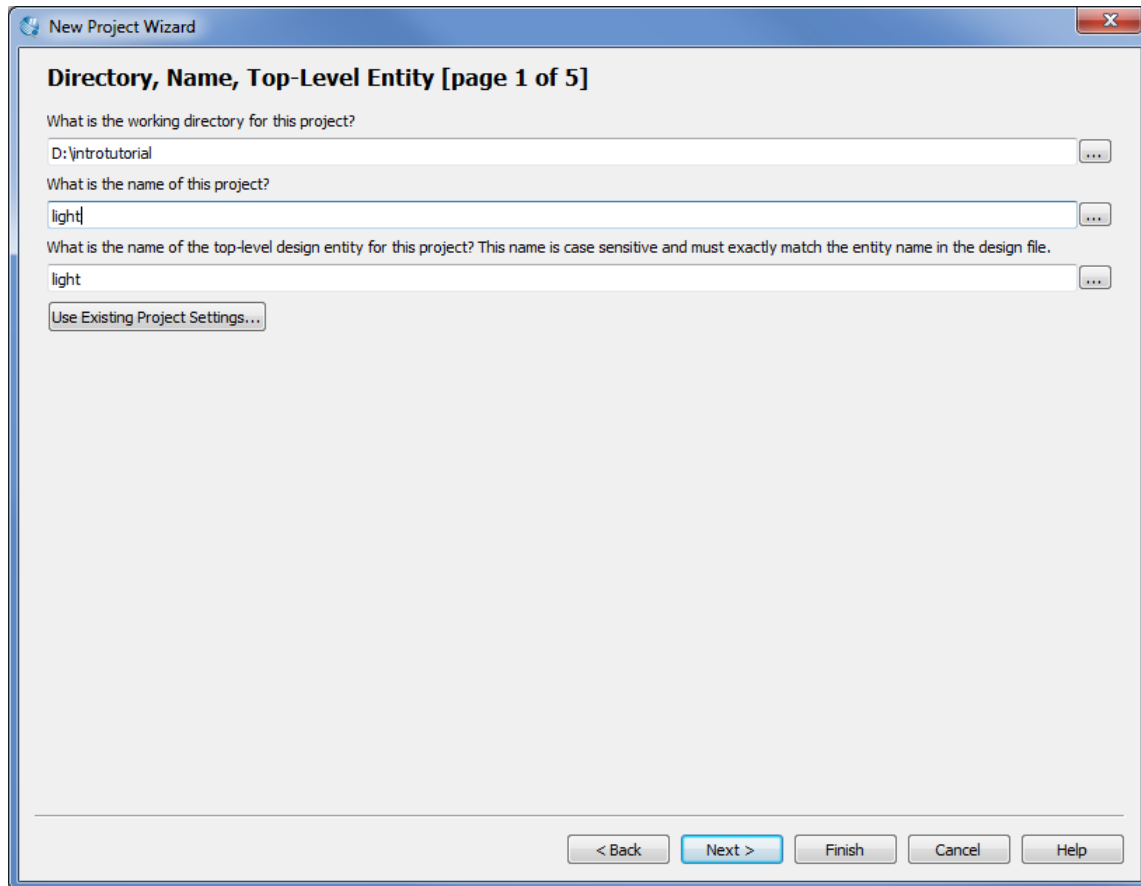
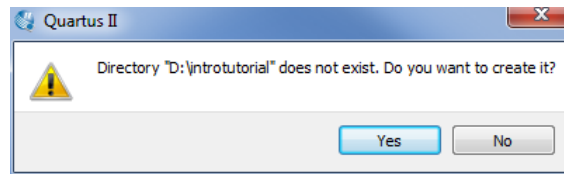
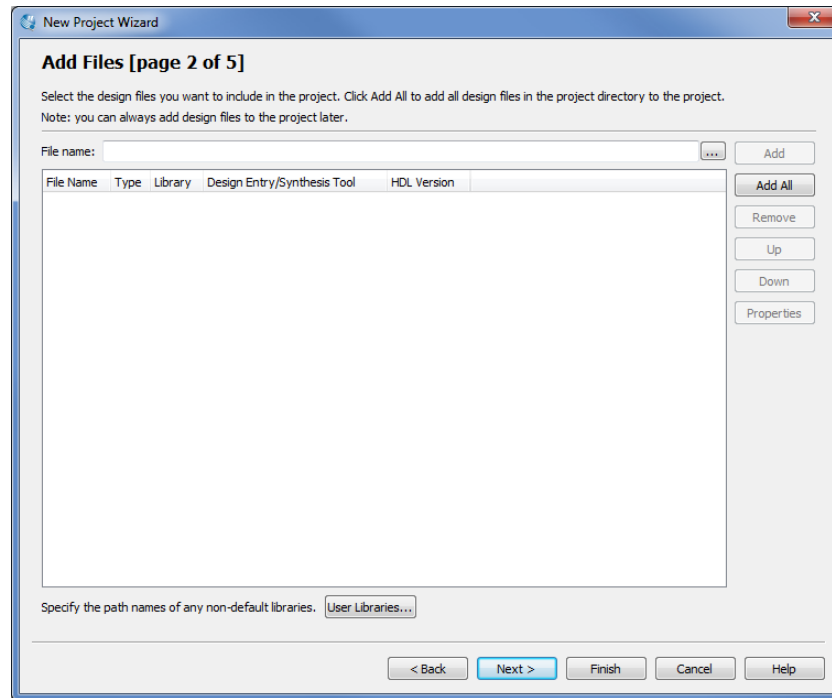

Figure 4. Creation of a new project.
Figure 5. Quartus II software can create a new directory for the project.
Figure 6. The wizard can include user-specified design files.
1. Select File > New Project Wizard and click Next to reach the window in Figure 4, which asks for the name and directory of the project.
2. Set the working directory to be *introtutorial*; of course, you can use some other directory name of your choice if you prefer. The project must have a name, which is usually the same as the top-level design entity that will be included in the project. Choose *light* as the name for both the project and the top-level entity, as shown in Figure 4. Press Next. Since we have not yet created the directory *introtutorial*, Quartus II software displays the pop-up box in Figure 5 asking if it should create the desired directory. Click Yes, which leads to the window in Figure 6.